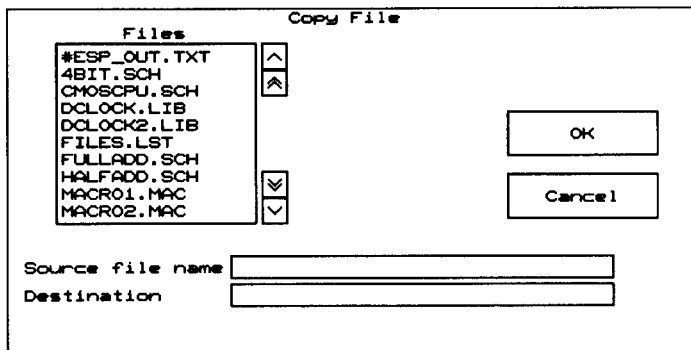

Figure 2-5. *Copy File* screen.
4. Select **Copy File**. The screen shown in figure 2-5 displays.